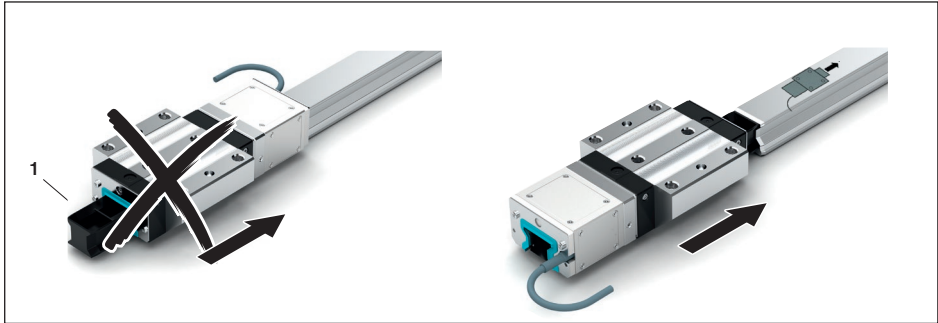

Fig. 6: Pushing the Runner Block onto the rail
- ▶ Position the Runner Block with transport lock (1) on the Guide Rail.
- ▶ Push the Runner Block onto the rail ➡ Fig. 6
- ▶ Keep the transport lock (1) for later disassembly.